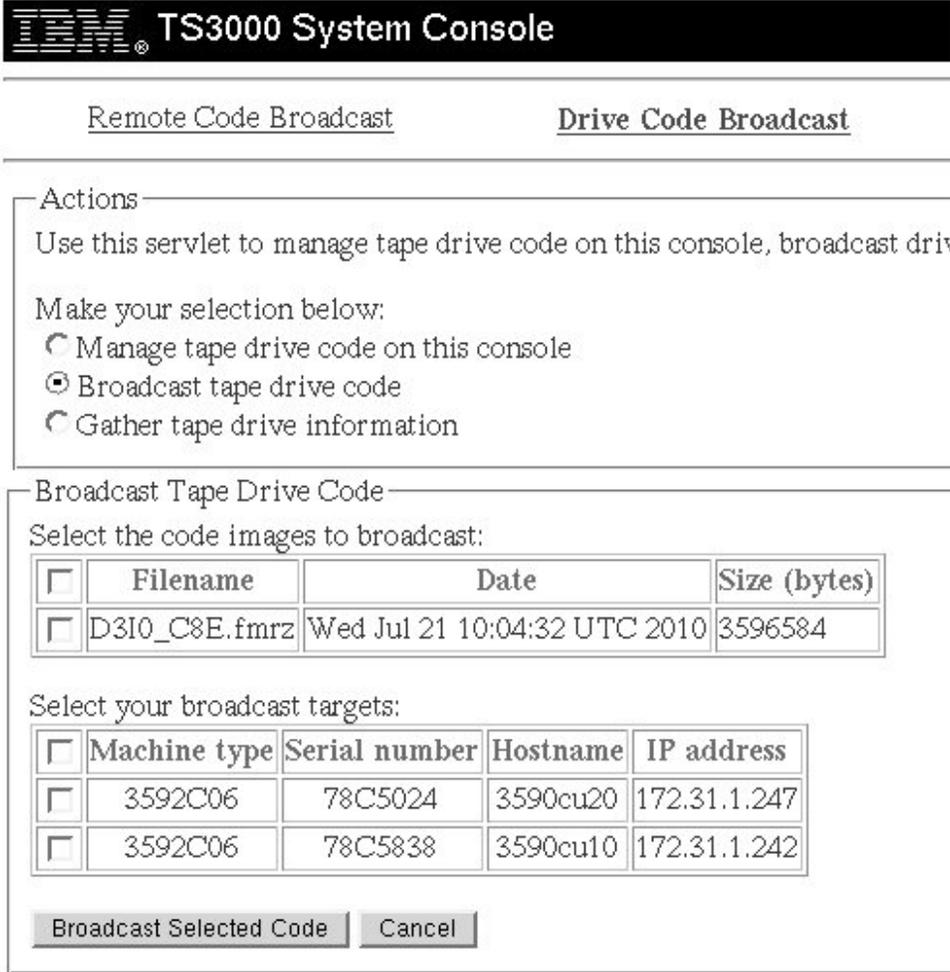

Figure 169. The broadcast screen will display all available code images and valid broadcast targets.
- See Figure 169 on page 131. To broadcast tape drive code to systems attached to this console, select the **Broadcast tape drive code** option under **Actions**. The display will change to show the existing code on this console and all valid broadcast targets attached to this TSSC. (Optionally, you will also see other TSSCs connected over the Grid network.) Place a check mark next to each code image to broadcast and each target system that should receive the broadcast. You must select at least one image and one attached system. Once your selections have been made, click the **Broadcast Selected Code** button. You will be prompted to verify the operation, so click **OK** to continue the broadcast or **Cancel** to return to the previous screen. The broadcast may take several minutes to complete depending on how many target systems were selected. Once the broadcast has finished, you will see a message displaying the status of each individual broadcast.